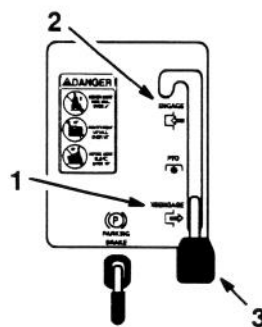

Figure 8
3. Move the blade control (PTO) to “DISENGAGED” (Fig. 8).